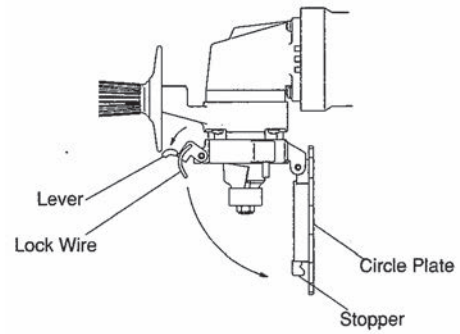

Fig. 8
- (1) Pull out the lever in the arrow direction to remove the Lock Wire from the stopper, and the Circle Plate will swing. (Fig.8)